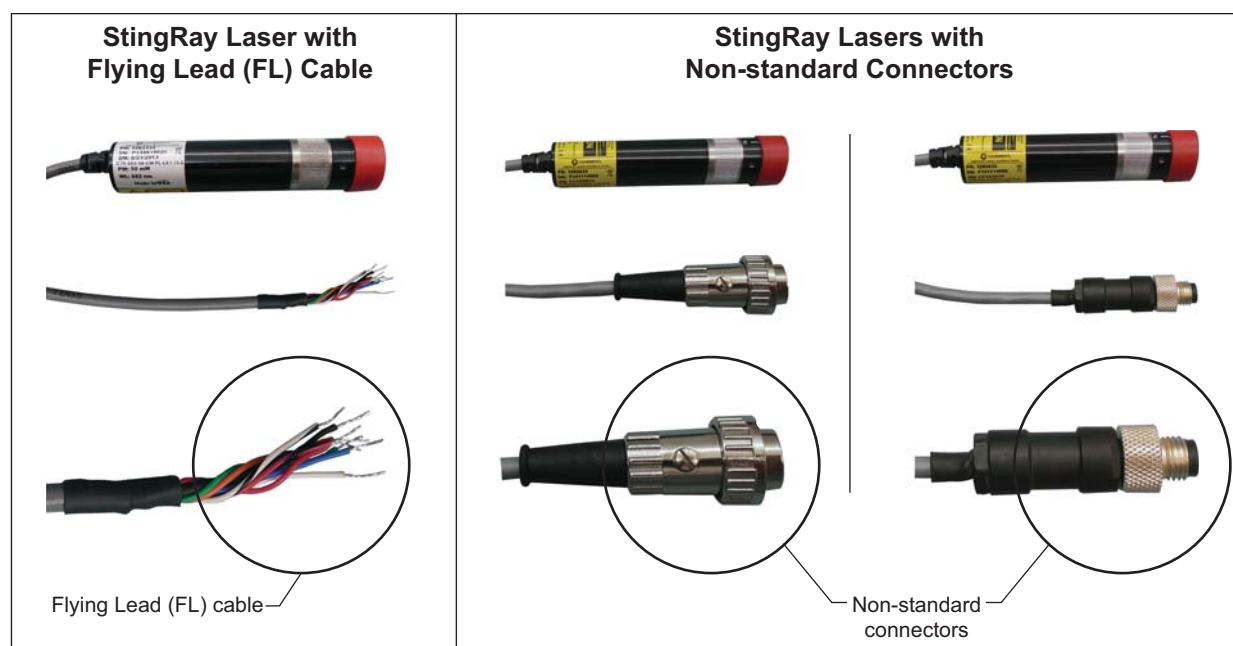

Figure C-1. Example — Non-Standard Connectors
Figure C-1 shows a StingRay laser configured with a Flying Lead (FL) cable, and two examples of StingRay lasers with non-standard connectors.